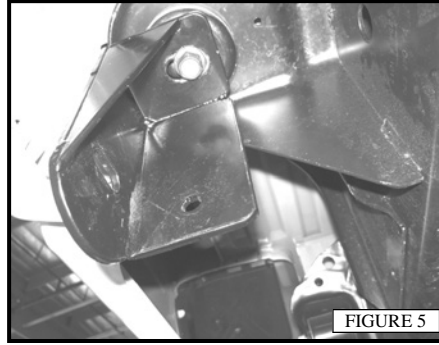

FIGURE 5
4. Remove the factory body mount bolt from the rear body mount that is located front of the rear tire. Attach the passenger side rear mounting bracket to the body mount and secure with the factory body mount bolt. The surface with the hole for support bracket will face the rear of the vehicle. Do not fully tighten at this time. (FIGURE 5)